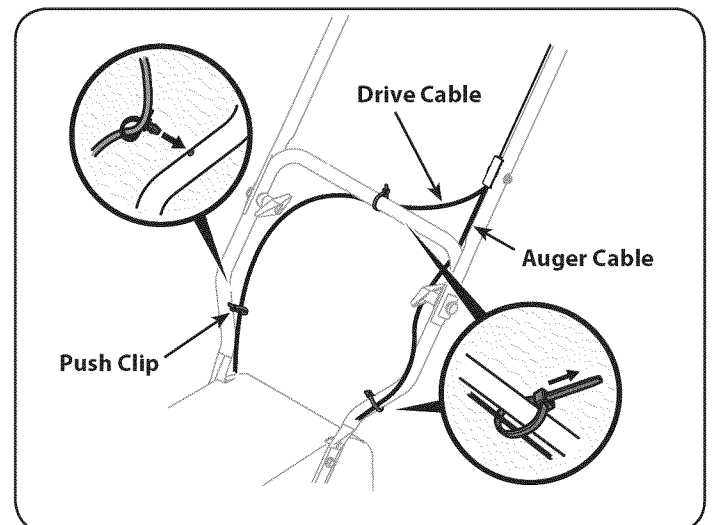

Figure 3
2. Slide the loosely fitted cable tie from the right side of the lower handle up to the cross member of the lower handle. Leave the second cable tie in place on the right side of the lower handle. See Figure 3 for reference.
NOTE: The auger cable routes down the left lower handle and the drive cable is routed across the top of the lower handle and down the right side of the lower handle. See Figure 3.
6. Two cable ties have been used to loosely tie the control cables to the lower handle. A push clip is also included on the lower drive cable. Position cable ties now, as in Fig. 3, and tighten to secure cables to the lower handle. Trim off excess material of cable ties. Install the push clip into the hole in the handle provided as shown in the left inset in Figure 3.